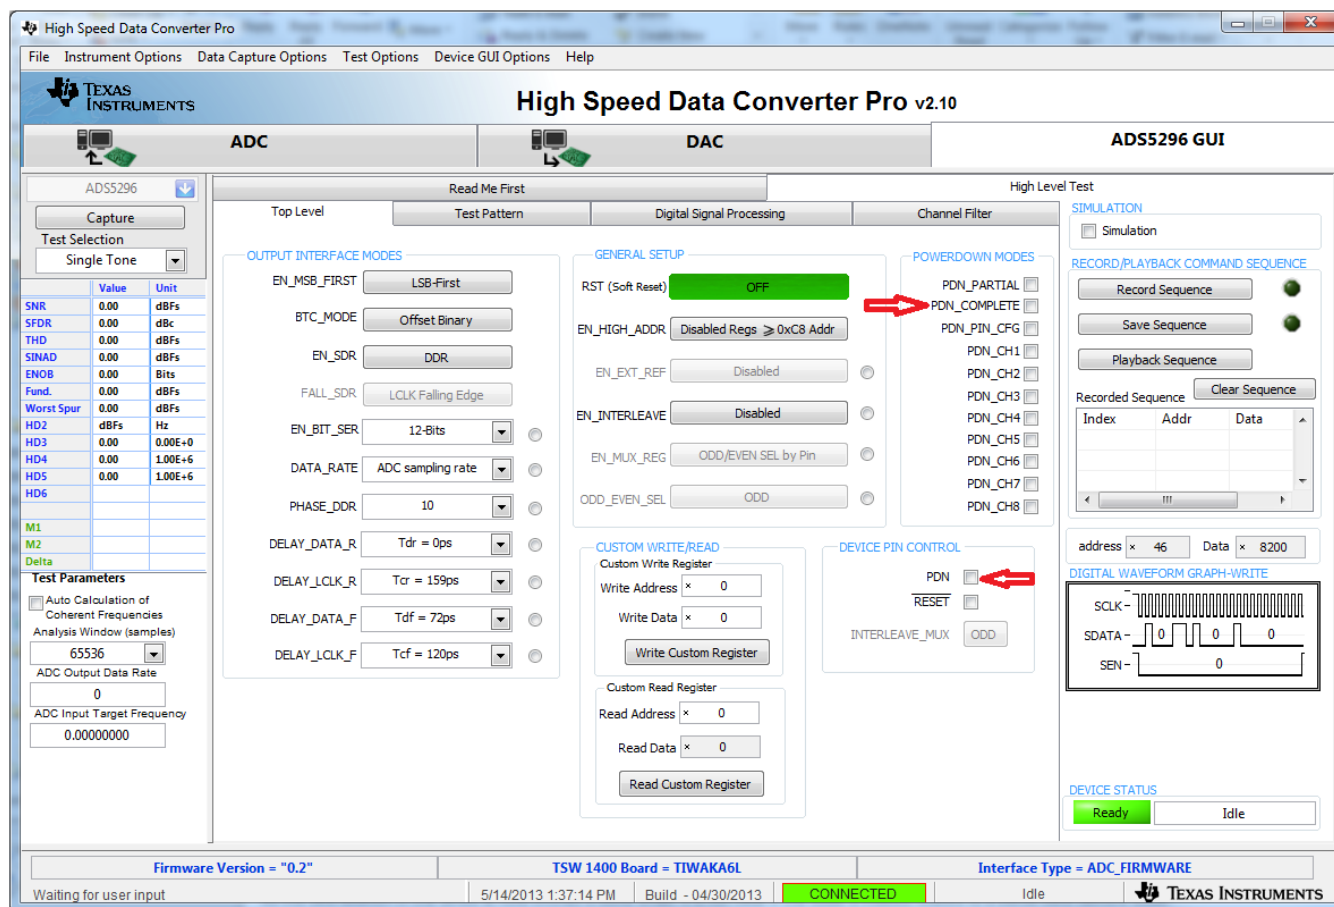

Figure 30. ADS5296 Plug-in GUI Setup (c)
Clicking on the *High Level Test* tab shows four sub-tabs: *Top Level*, *Test Pattern*, *Digital Signal Processing*, and *Channel Filter* as shown in Figure 30.
- Verify that communication between the ADS5296 EVM and the ADS5296 GUI is established by toggling either **PDN\_COMPLETE** checkbox or the **PDN** checkbox highlighted on Figure 30. Checking either box should make +5-V power supply current drop from ~850 mA to ~563 mA. If the DC current is approximately 600 mA with both power down boxes unchecked, it indicates that the ADS5296 is not receiving the sampling clock. Please ensure that the 3-pin headers are configured as described in Section 3.2. Before continuing, ensure that both power down boxes are left unchecked. At this point, the GUI is confirmed to be communicating correctly with the EVM and testing can begin.